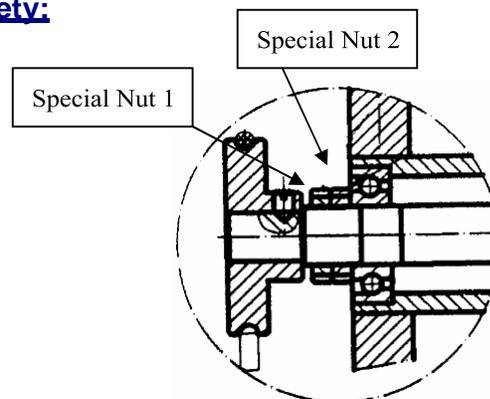

Fig. 12
- 6.1.1. Clearance adjustment for main bearing: See Fig.12. Loose special nut 2 first and then loose special nut 1 to adjust